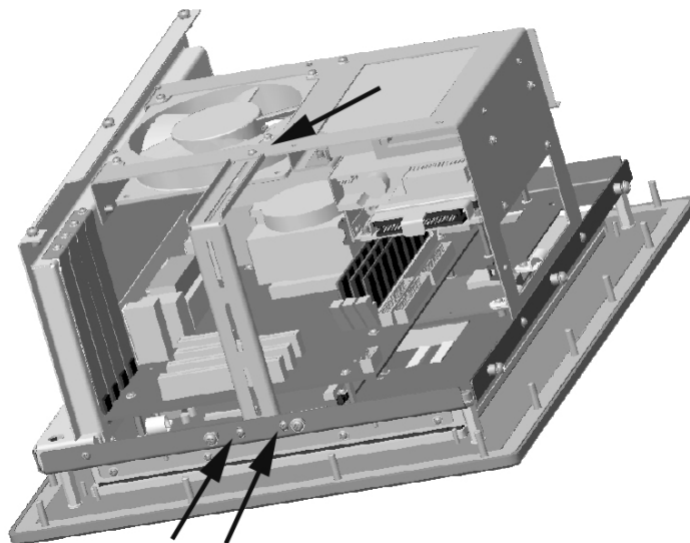

Figure 3 Card Clamp Screw Locations
2. Using a 1 point Phillips screwdriver, remove the screws illustrated in Figure 3 which hold the card guide in place.